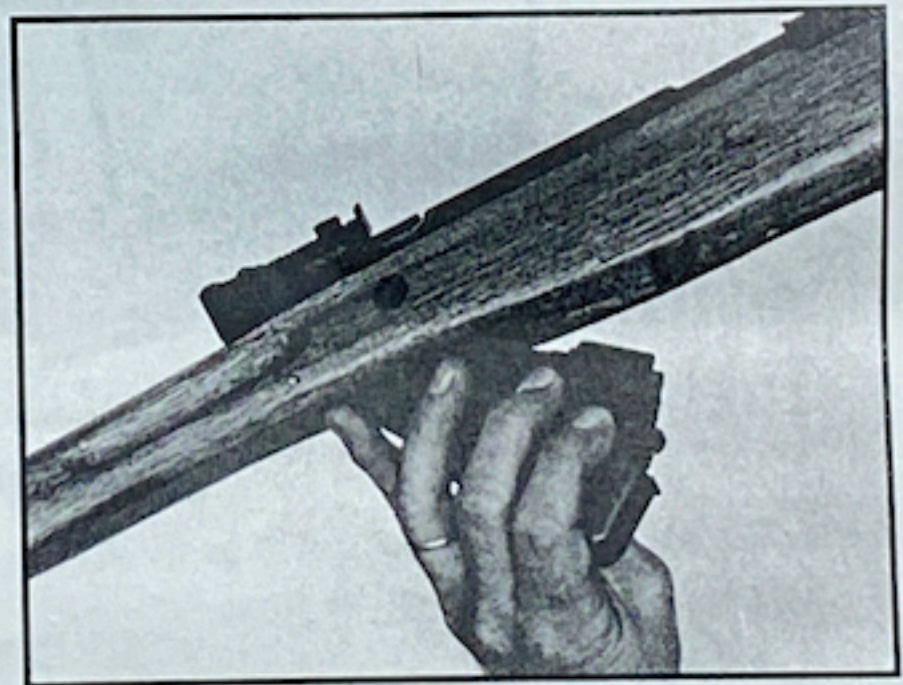

Figure 18
5. With the trigger mechanism removed, and the bolt locked in the open position, the magazine can be taken out of the stock by simultaneously pulling the magazine down and to the rear. (Figure 18) When reinstalling magazine be certain front of magazine is engaged in lug on receiver.